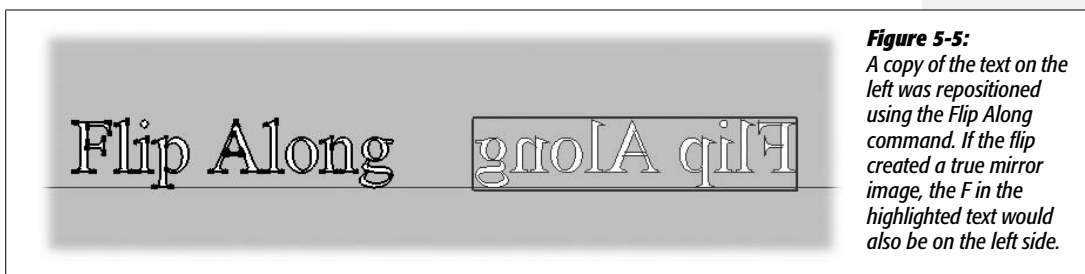

Figure 5-5:
- **Reset Scale** returns a group or component to its original dimensions. You can change the dimensions of an entire group by using the Scale (S) tool. When this is done to the entire group or component, as opposed to opening and editing the group, you can undo the changes with the Reset Scale command.
- **Reset Skew** returns a group or component to its original dimensions. You can skew an entire group by making multiple changes with the Scale (S) tool. When you skew an entire group or component, as opposed to opening and editing the group, you can undo the changes with the Reset Skew command.
- **Flip Along** repositions an object along one of the three major axes. As shown in Figure 5-5, Flip Along doesn't create a mirror image.